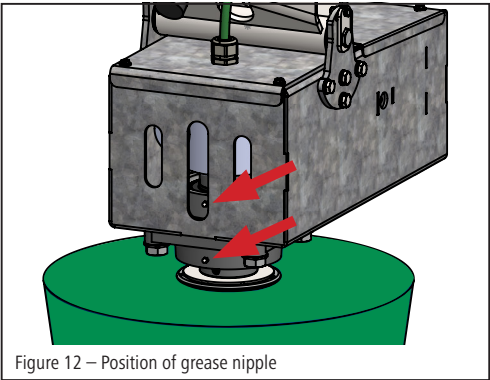

Figure 12 – Position of grease nipple
| Moving parts (plain bearings, rubber buffers, flange bearings, grease nipples Fig.12) |          | x           | x          | Weekly      |
Lubricate the flange bearing units at the locations marked (Fig. 12). Check plain bearing bushes (Fig. 14 - item 2.2) for wear. These parts must be inspected regularly and replaced if they are wearing too much.